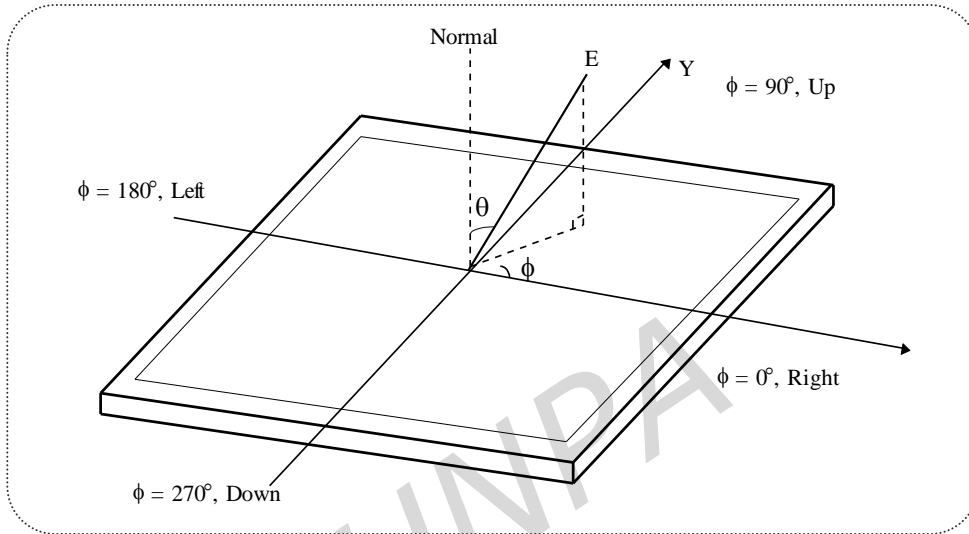

FIG. 8 Viewing angle
7. Viewing angle is the angle at which the contrast ratio is greater than 10. The angles are determined for the horizontal or x axis and the vertical or y axis with respect to the z axis which is normal to the LCD surface. For more information see FIG 8. (By PR880)